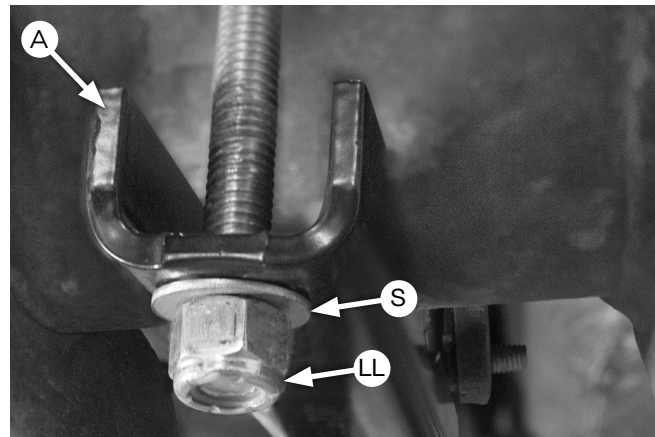

Fig. 43
*If you have a sway bar, insert the carriage bolts through the clamp bar (A) as you set the assemblies into position over the axle (see Fig. 43).*
- If not already completed (sway bar noted earlier), set the lower clamp bars (A) over the carriage bolts located under the axle (Fig. 43). Attach with 3/8" flat washers (S) and nylon lock nuts (LL). Evenly torque the lower clamp bar hardware to 16 lb.-ft. (22Nm).